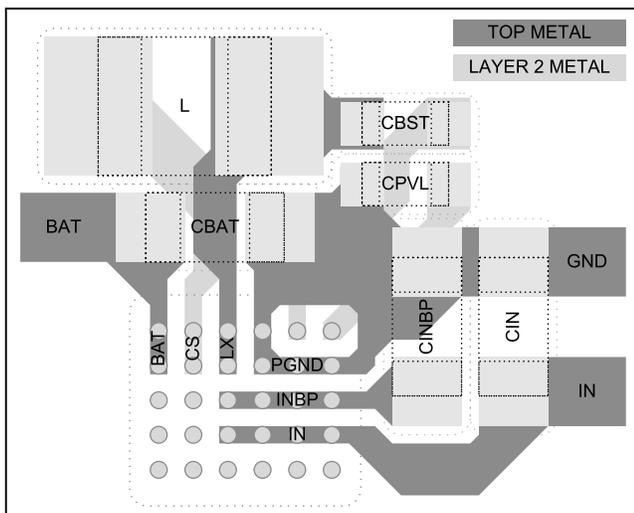
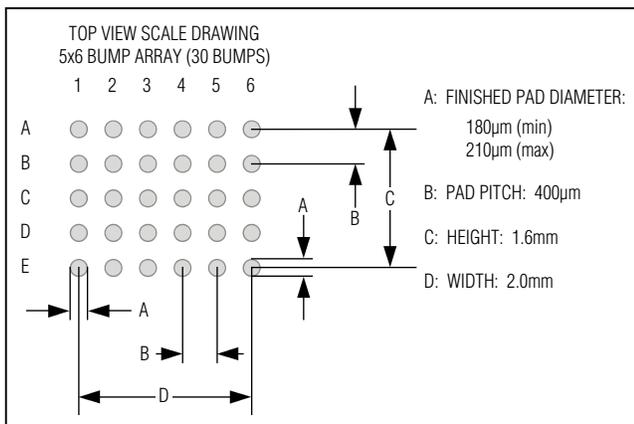
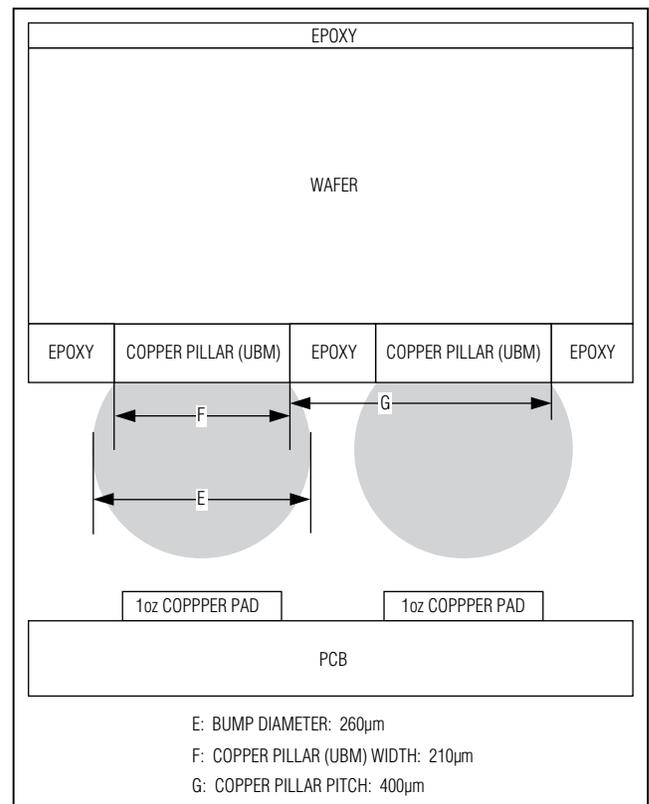
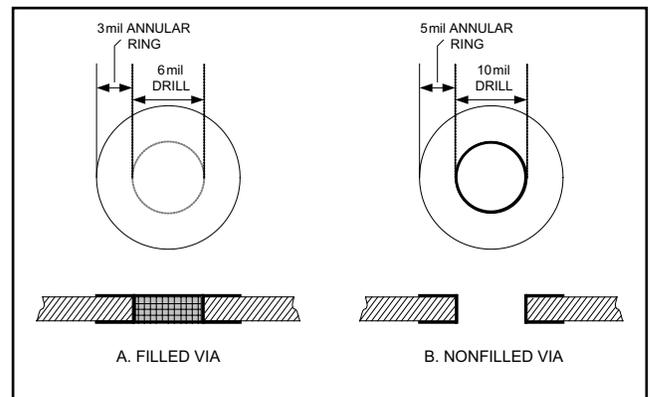

Figure 4. Power PCB Layout Example
Figure 5. Recommended Land Pattern
Figure 6. Bump Cross Section and Copper Pillar Detail
Figure 8. Via Details
The MAX8900_ wafer-level package (WLP) and bump configuration allows for a small-size, low-cost PCB design. Figure 4 shows that the 30 bumps on the MAX8900_ WLP are combined into 18 functional nodes. The bump configuration places all like nodes adjacent to each other to minimize the area required for routing. The bump configuration also allows for a layout that does not use any vias within the WLP bump matrix (i.e., no micro vias). To utilize this no-via layout, \overline{CEN} is left unconnected and the STAT3 pin is not used (2-pin status version). Note that although layouts without micro vias are possible, this EV kit uses filled micro vias that are on the WLP pads of the MAX8900A (A2, A5, A6, B2, C2, D2, and E6). These filled micro vias on pads were used to showcase the small solution size.
Figure 5 shows the recommended land pattern for the MAX8900_. Figure 6 shows the bump cross section of the MAX8900_ under-bump metal (UBM). The diameter of each pad in the land pattern is close to the diameter of the UBM. This land pattern to UBM relationship is important to get proper reflow of each solder bump. Note that although layouts without micro vias are possible, this EV kit uses filled micro vias that are on the WLP pads of the MAX8900A (A2, A5, A6, B2, C2, D2, and E6). These filled micro vias on pads were used to showcase the small solution size.
Careful printed circuit layout is important for minimizing ground bounce and noise. Figure 4 is an example layout of the critical power components for the MAX8900_. The arrangement of the components that are not shown in Figure 4 is less critical. Figures 8–10 show the entire layout of the MAX8900A EV kit and Table 6 shows the EV kit construction attributes. To ensure a successful layout for the MAX8900A, use the following list of guidelines and refer to Application Note 1891: *Wafer-Level Packaging (WLP) and Its Applications*, which is available at www.maximintegrated.com.
- 5) In Figure 4, the CS node is connected to the second layer of metal with vias. Use low-impedance vias capable of handling 1.5A of current. Also, keep the routing inductor current path on layer 2 just underneath the inductor current path on layer 1 to minimize impedance.
- 6) Both C_{BST} and C_{PVL} deliver current pulses for the MAX8900_'s MOSFET drivers. These components should be placed as shown in Figure 4 to minimize parasitic impedance.
In Figure 4, many of the top-layer bump pads are connected together in top metal. When connecting bumps together with top-layer metal, the solder mask should define the pads from 180 μ m to 210 μ m, as shown in Figure 5. When using solder-mask defined pads, double-
VIA UNDER WLP:	6 mil drill and 3 mil annular ring on top and bottom layers, filled via (Figure 8)
VIA ON REMAINING AREA OF PCB:	10 mil drill and 5 mil annular ring on top and bottom layers (Figure 8)